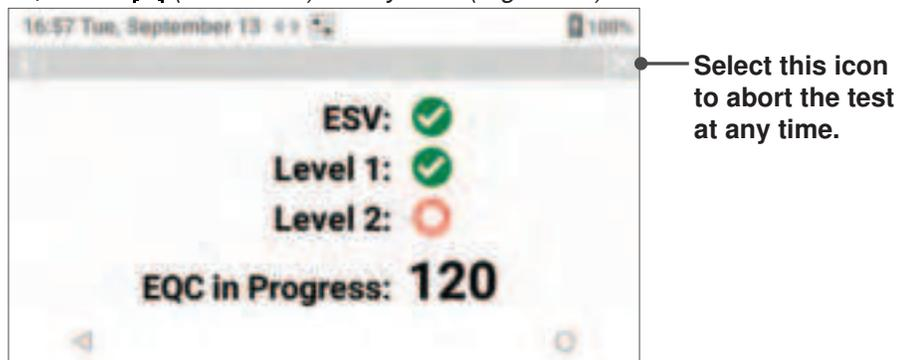

Figure 62: EQC Test in Progress
- The EQC test starts. Information about test progress is displayed (Figure 62).
NOTE: To abort the test, select  (Abort Test) at any time (Figure 62).